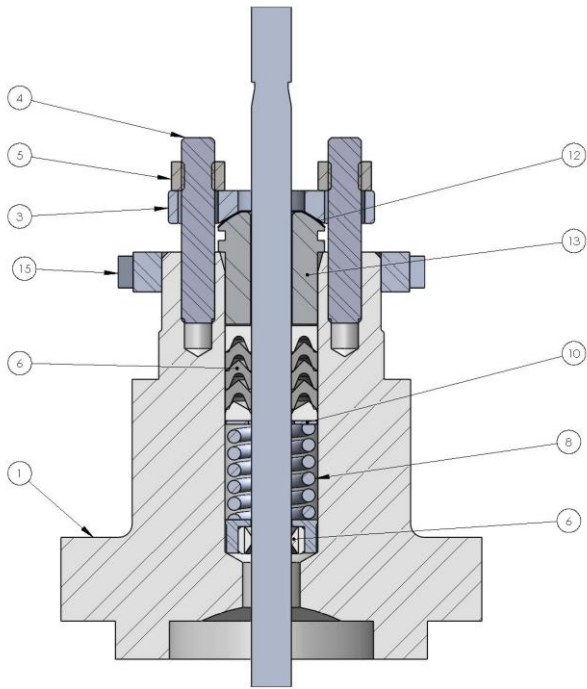

Figure 11. Plain Bonnet
8. Remove the packing flange nuts, packing flange, upper wiper, and packing follower (keys 5, 3, 12, and 13, figure 11). Carefully push out all the remaining packing parts from the valve side of the bonnet using a rounded rod or other tool that will not scratch the packing box wall. Clean the packing box and the metal packing parts.
13. Slide the packing follower, upper wiper, and packing flange (keys 13, 12, and 3, figure 11) into position. Lubricate the packing flange studs (key 4, figure 11) and the faces of the packing flange nuts (key 5, figure 11). Install the packing flange nuts.
14. **For spring-loaded PTFE V-ring packing,** tighten the packing flange nuts until the shoulder on the packing follower (key 13, figure 11) contacts the bonnet.